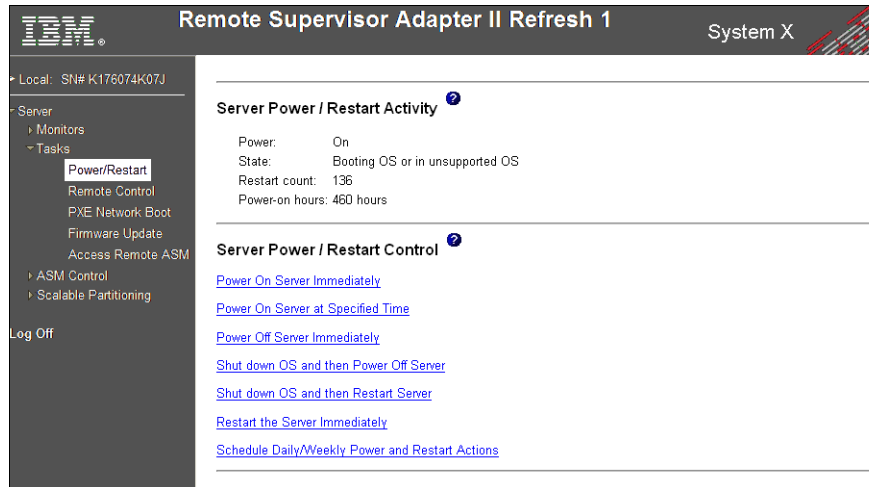

Figure 4-30 RSA II Web interface: Power/Restart options
- Use the power (on/off) features in the Remote Supervisor Adapter II Web interface, as shown in Figure 4-30.
- ▶ Use the power on/off option in the RSA II Web interface, as shown in Figure 4-30 on page 233.
- ▶ Use the reset options in the Power/Restart control of the RSA II Web interface, which is installed in any of the x3950 M2 systems. See Figure 4-30 on page 233.
1. Power off both systems and start the multinode again. If the scalability management menu is unresponsive, perform a power off at all systems in this partition in the power options of the RSA II Web interface. See Figure 4-30 on page 233.